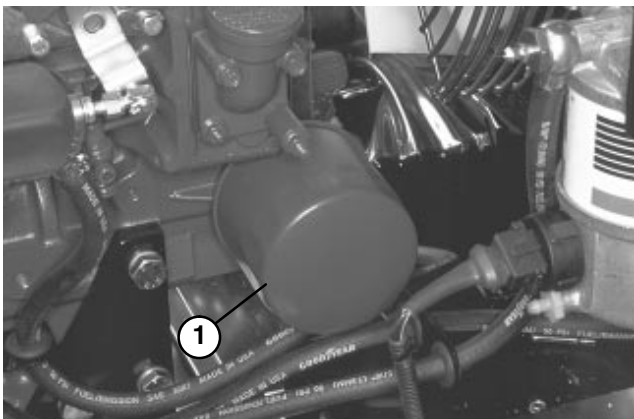

Figure 30
2. Remove oil filter (Fig. 30). Apply a light coat of clean oil to the new filter seal before screwing it on. **DO NOT OVER-TIGHTEN.**